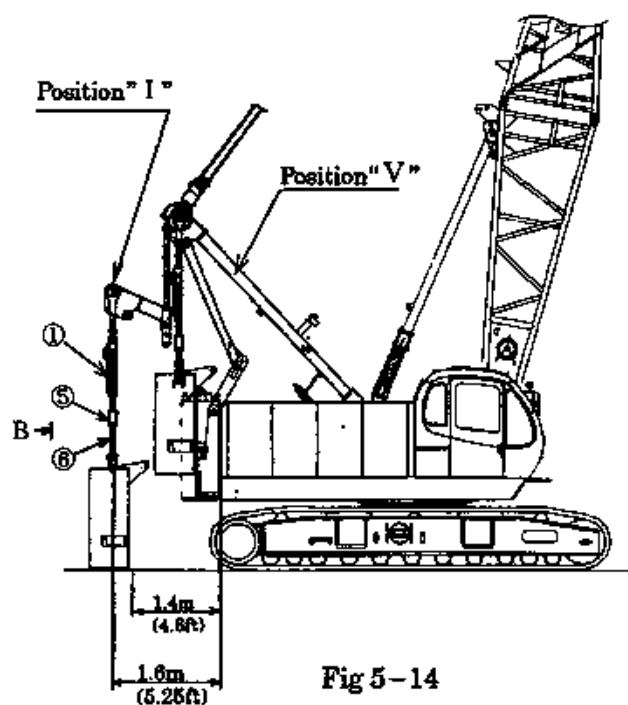
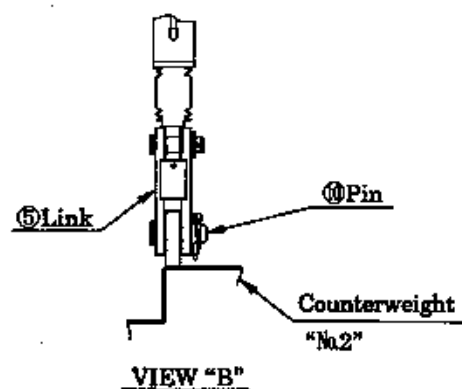
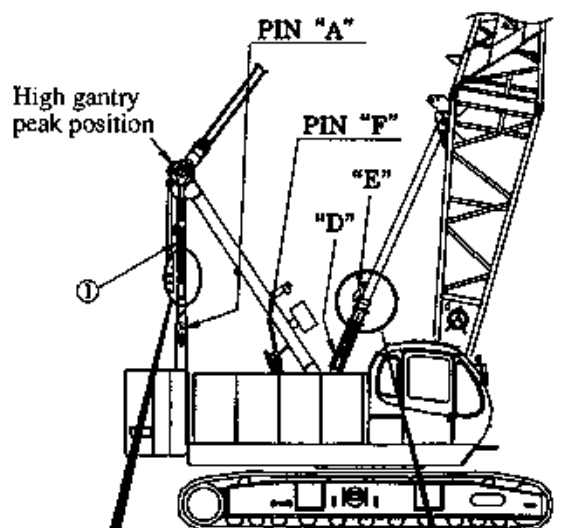

Fig 5-14
Fig 5-15
Fig 5-17
3. INSTALLATION OF COUNTERWEIGHT NO. 2 (FIG. 5-14, FIG. 5-15, FIG. 5-16, FIG. 5-17)
- (1) Place the machine so that the rear end of the deck is approx. 1.4 m (4.6 ft) apart from the counterweight No. 2. Then, fully retract the right and left lift cylinders ①, and lower the gantry as per the "Position II" shown in the figure 5-14 by lowering the gantry.
- (2) Connect the link ⑤ to counterweight No. 2 with the pin ⑩ (link ⑥ is not used)
- (3) Raise the gantry as per the "Position IV" shown in the figure 5-14 by raising the gantry.
- (4) Attach the counterweight No. 2 to the counterweight No. 1 by operating the control box, while keeping a balance of right and left lift cylinders ①.
- (7) Remove the pin ⑩ from the counterweight No. 3 and the link ⑤ (Fig. 5-15). Then, raise the gantry until the gantry is set to the high gantry position (Fig. 5-17).
- (8) Insert the tension member pin "A" to fix the tension member (Fig. 5-17).
- (9) Install gantry cylinder to compression member by pin "B" (Fig. 5-17).
- (10) After the installation of the counterweights, be sure to remove spacer "D" and backstop pin "E" (Fig. 5-17).
- (11) Fully retract lift cylinders ①, and fix with the hook of the link ⑤ to the tension member.
Lowering of the boom with the spacer (Fig. 5-17) attached will cause the interference of the spacer with the winch guard.
- (1) Insert the gantry cylinder pin "F" (Fig. 5-17).
- (1) Remove the hook for the lift cylinder and tension bar (Fig. 5-17). Then, lower the gantry as per the "Position IV" shown in (Fig. 5-20) by lowering the boom.
- (2) Connect the link ⑤ and the counterweight No. 2 with the pin ⑩.
- (3) Detach the mounting bolts of the counterweight No. 2.
- (4) Lift the counterweight No. 2 by operating the control box to fully retract the right and left lift cylinders ①, while keeping a balance of right and left.
- (5) Lower the gantry by boom lowering operation to position "III". The counterweight No. 2 down onto the ground. Then extend lift cylinder ① to ground the counterweight.
- (6) Remove the pin ⑩ from the counterweight No. 2.